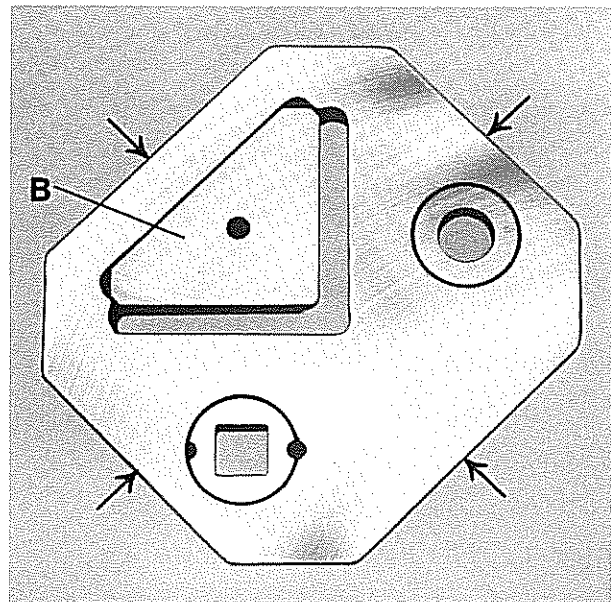

Fig. 45: Blade for angles, movable
- a) Prior to mounting the movable section blade "F", properly lubricate the outer guide sides (See fig. 45, arrows).